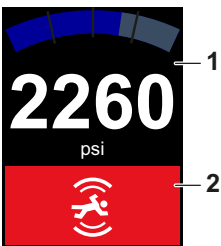

Fig. 15 Parts of the display
- The upper part (Fig. 15, 1) always shows the pressure (see section 4.4.1.1).
- The lower part (2) shows additional information (see section 4.4.1.2).
The graphical pressure display shows the pressure (Fig. 15, 1) relative to the rated capacity of the selected cylinder. If the measured pressure exceeds the rated capacity, the pressure bar will be full. The numeric pressure display shows the pressure in the configured pressure unit (psi). The colors of the numeric and graphical pressure display will change as the measured pressure crosses configured thresholds.
When one or more alarms are active (see section 3.2.8), the most severe alarm is indicated in the lower part of the display (Fig. 15, 2). The indicated alarm takes priority over any other information items. The items can still be cycled through by pressing a side button.